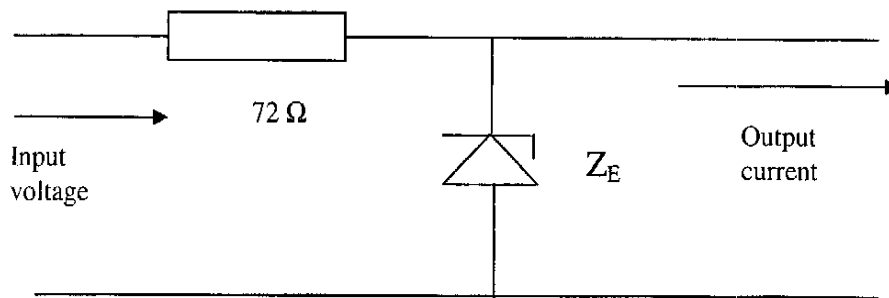

Fig Q3
- (i) the final steady state voltage across the pair; (4)
- (ii) the energy stored by the pair of capacitors. (4)
3. Fig Q3 shows a basic voltage stabilising circuit using a Zener diode and a series resistor. The Zener diode has a breakdown voltage of 12 V and is rated at 2 W maximum dissipation. The diode requires a minimum reverse current of 2 mA for satisfactory stabilisation and its slope resistance is negligible